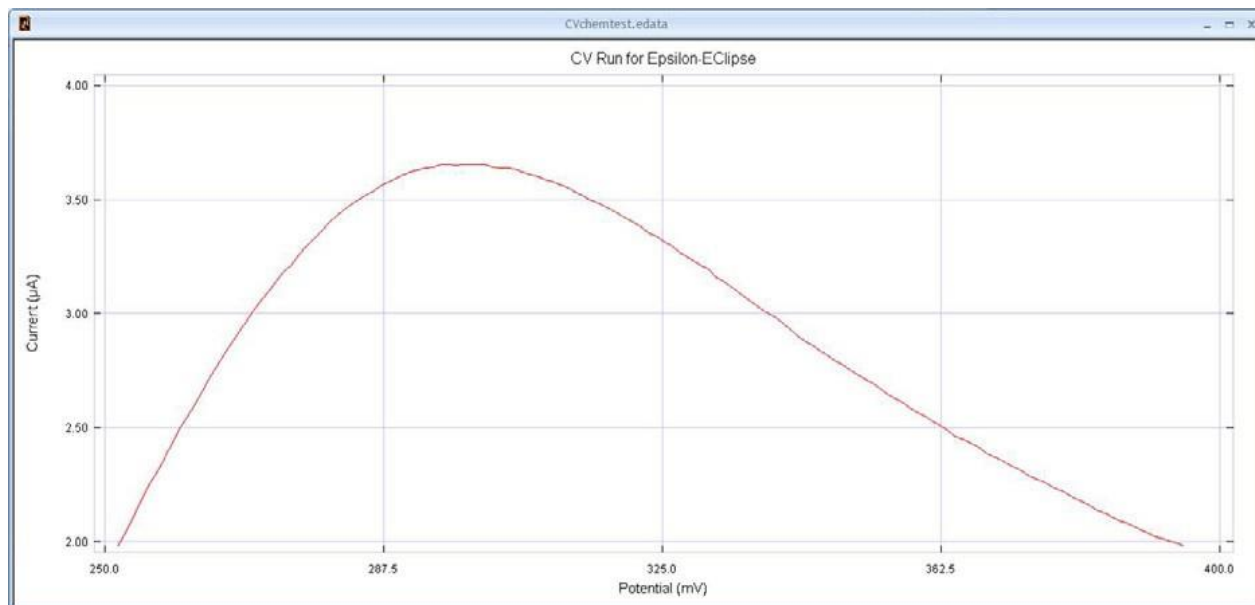
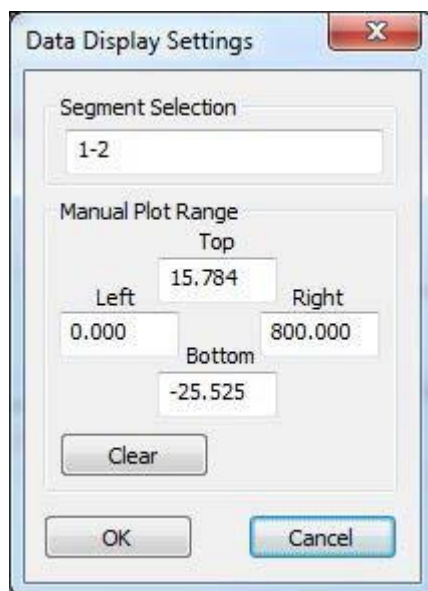

Figure 4 - Enlarged section of the Cyclic Voltammetry graph
Figure 5 - Data display settings dialog box
6. A specific area of the graphic can be enlarged by using the mouse cursor (and the left mouse button) to define the area (Figure 4), by using the mouse scroll to zoom in and out, or by entering the x and y values in the **Data Display Settings** dialog box in the **Graph** menu (Figure 5). The original graph can be restored using **Zoom Full Range** in the **Graph** menu.